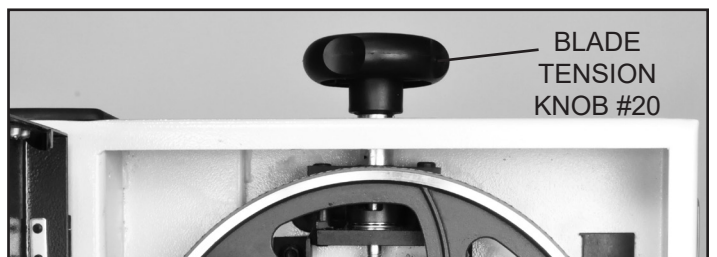

FIGURE 8
1. Place the Blade Tensioning Handle (#20) onto the Tension Rod end (#21) located at the top of the frame. FIG. 8. See page 14 for Blade Tensioning Adjustments.